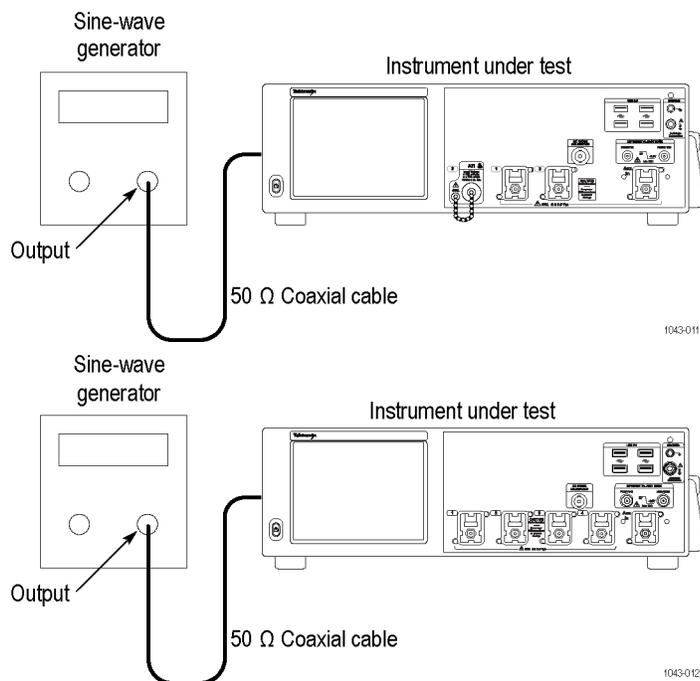

Figure 26: Timebase and delay time final test hookup
- Move the cable from the **CH1** input to the rear-panel **Ext Ref In** input (See Figure 26 on page 159.)